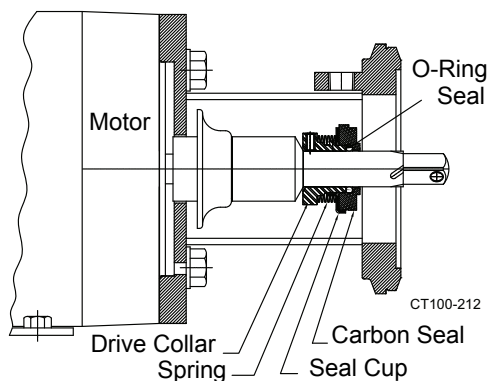

Figure 31 - Installing Seal
- Assemble the spring, seal cup, o-ring, and carbon seal onto the drive collar. Take care to ensure that the pin on the drive collar is in line with the slot on the cup. (See Figure 31.)